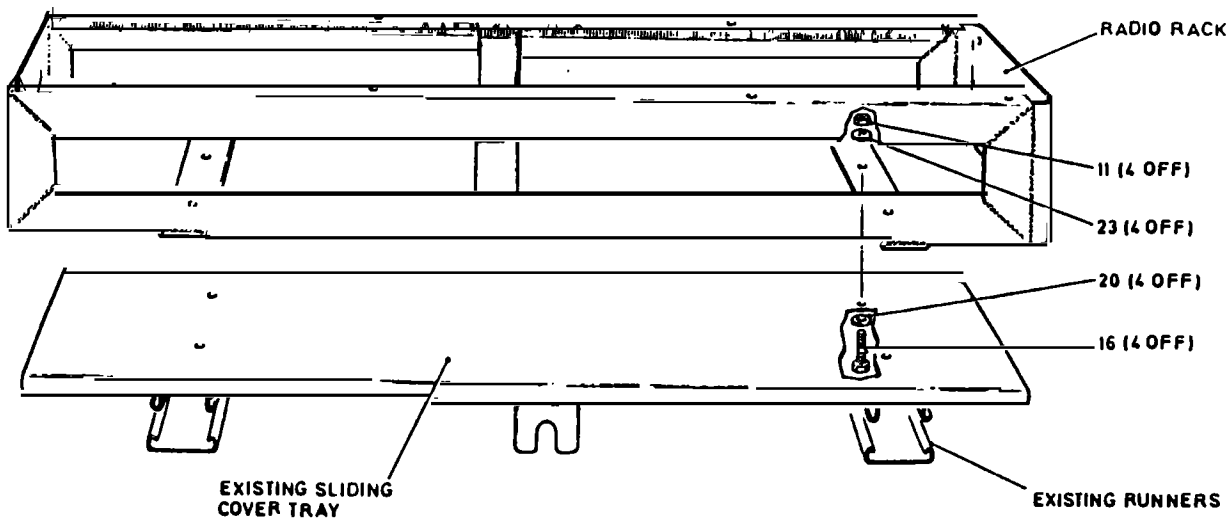

Fig 5 Radio rack mounting diagram
13.5.3 Locate the two fixing holes in the roof bosses on the l.h.s. forward of turret hatch. (See Cat 302, Chap 1, Fig 5).
Fit the radio rack (8) to the rear shelf as per Fig 5 and Table 3, operation 6.